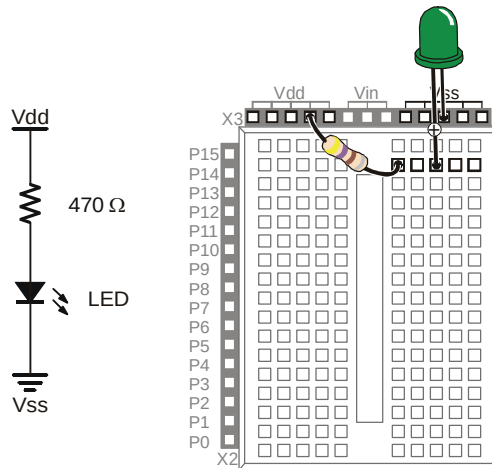

Figure 2-6
Figure 2-6 shows a circuit schematic, and a picture of how that circuit will look when it is built on the prototyping area. Each 5-socket group can connect up to five leads, or wires, to each other. For this circuit, the resistor and the LED are connected because each one has a lead plugged into the same 5-socket group. Note that one lead of the resistor is plugged into Vdd (+5 V) so the circuit can draw power. The other resistor lead connects to the LED's anode lead. The LED's cathode lead is connected to Vss (0 V, ground) completing the circuit.
You are now ready to build the circuit shown in Figure 2-6 (below) by plugging the LED and resistor leads into sockets on the prototyping area. Follow these steps:
- ✓ Double check to make sure you built your circuit exactly as shown in Figure 2-6.